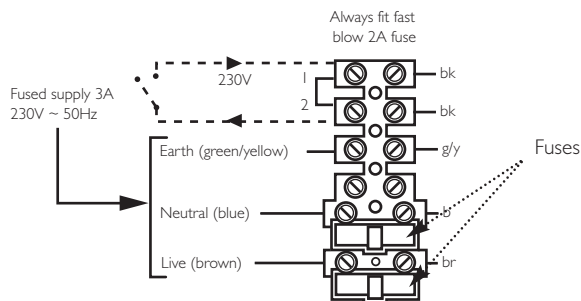

Fig. 30
6. Remove the link between terminals 1 & 2. The switched output from the external control must be connected to terminal 2 (Fig. 30).